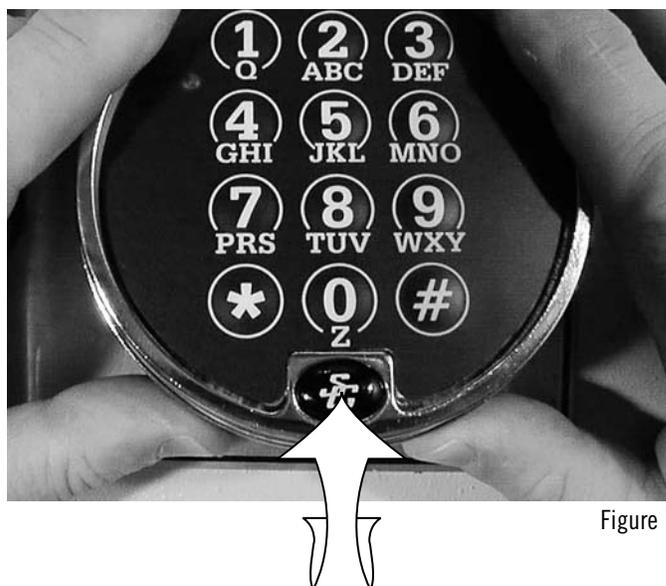

Figure 1
Step 1—Remove the keypad from its mounting base. This can be done by pulling the bottom of the keypad housing away from the base. Grip the keypad housing as shown in the Figure 1 for best results. **Support the keypad housing so that the wires which are attached to its circuit board are not pulled or stressed. Do NOT LET THE KEYPAD HANG FROM ITS WIRES.**